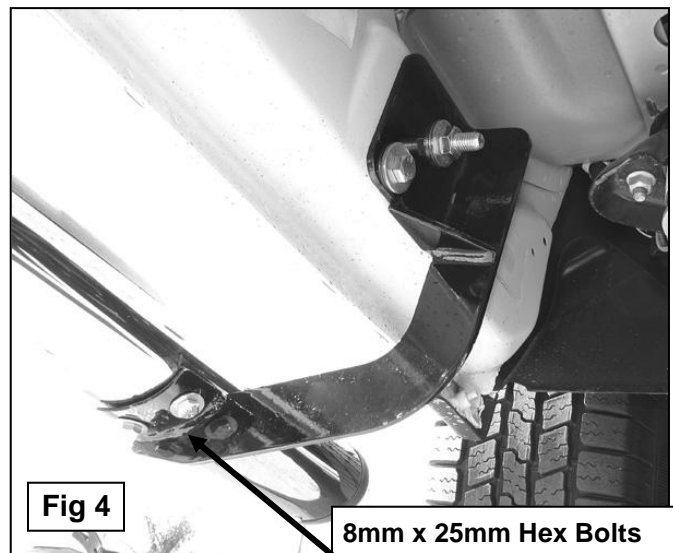

Fig 4
5. Once all of the brackets have been installed, with assistance, carefully position the driver Sidebar onto the Mounting Brackets. Partially attach the Sidebar to the cradles on the Mounting Brackets using the included (6) 8mm x 25mm Hex Head Bolts, (6) 8mm Lock Washers, and (6) 8mm Flat Washers, **(Figure 4)**. Do not tighten hardware at this time.